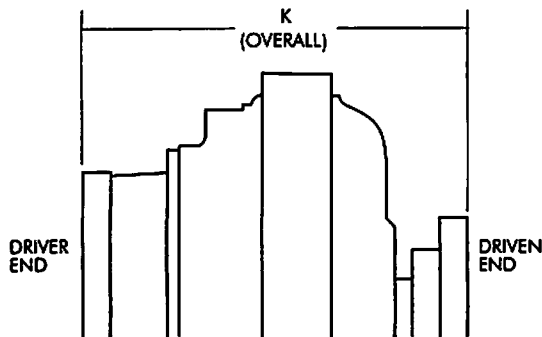

Figure 3
- Mount the fluid coupling as shown in Figures 3 & 5, the output adapter side of the coupling must be connected to the driven equipment. Attaching the output adapter side of the fluid coupling to the driver (usually a motor) will result in degraded performance, or in some cases inadequate performance.
- Determine required distance between shaft ends (BE) by accurately measuring distance "K" as shown in Figure 3 and adding to that value the appropriate addition: Type G, Sizes 1010, 1025 and 1030 add .060" (1,52 mm); Sizes 1015 and 1020 add .020" (0,501 mm); Sizes 1035 and 1040 add .120" (3,05 mm); Sizes 1045 and 1050 add .180" (4,57 mm).